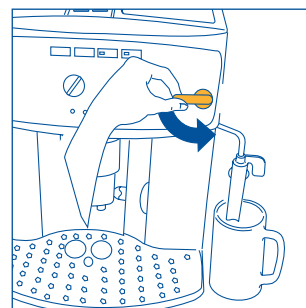
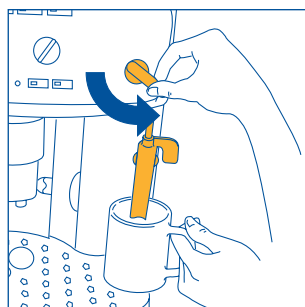
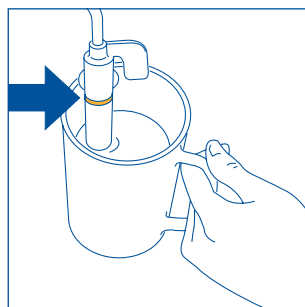

Fig.5
Fig. 23
Fig. 24
3. **IMMEDIATELY AFTER, WITHIN A MAXIMUM OF 30 SECONDS**, turn the steam knob anticlockwise until it stops (Fig.5) (it is normal for the machine to make some noise).
- Turn the steam knob half a turn in anticlockwise until it stops (Fig. 5): hot water will come out of the milk frother and start to fill the container underneath.
- **Immediately after, within a maximum of two minutes** (otherwise the machine automatically returns to the coffee function), dip the milk frother into the container of milk (Fig. 23), making sure not to immerse the line in relief on the milk frother (indicated by the arrow in Fig. 24) and turn the steam knob half a turn anticlockwise until it stops (Fig. 5). *(Be careful, to avoid being scalded).* The steam released will make the milk froth and increase in volume. To make creamier foam, dip the milk frother into the milk and rotate the container with slow movements from the bottom to the top (you are recommended to limit steam delivery to no more than two minutes at a time).
- Release a little steam for a few seconds by turning the steam knob anticlockwise until it stops (Fig. 5).